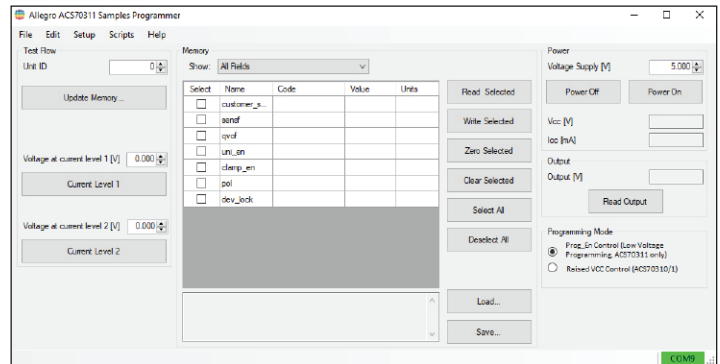

Figure 10: ACS70311 Programmer Application
- Connect the other end of the USB communications cable to the USB port on the ASEK-30 chassis (the front panel of the ASEK-30 is shown in Figure 10).
When the programmer opens, a window appears as shown in Figure 10.